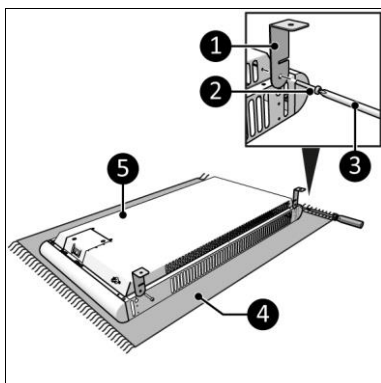

Figure 10
7. Lay the device down on a soft steady surface (Figure 10, pos. 4).
8. Screw and tighten two brackets (Figure 10, pos. 1) on both sides of the main body (Figure 10, pos. 5) with a small screw (Figure 10, pos. 2) using a Phillips screwdriver (Figure 10, pos. 3).